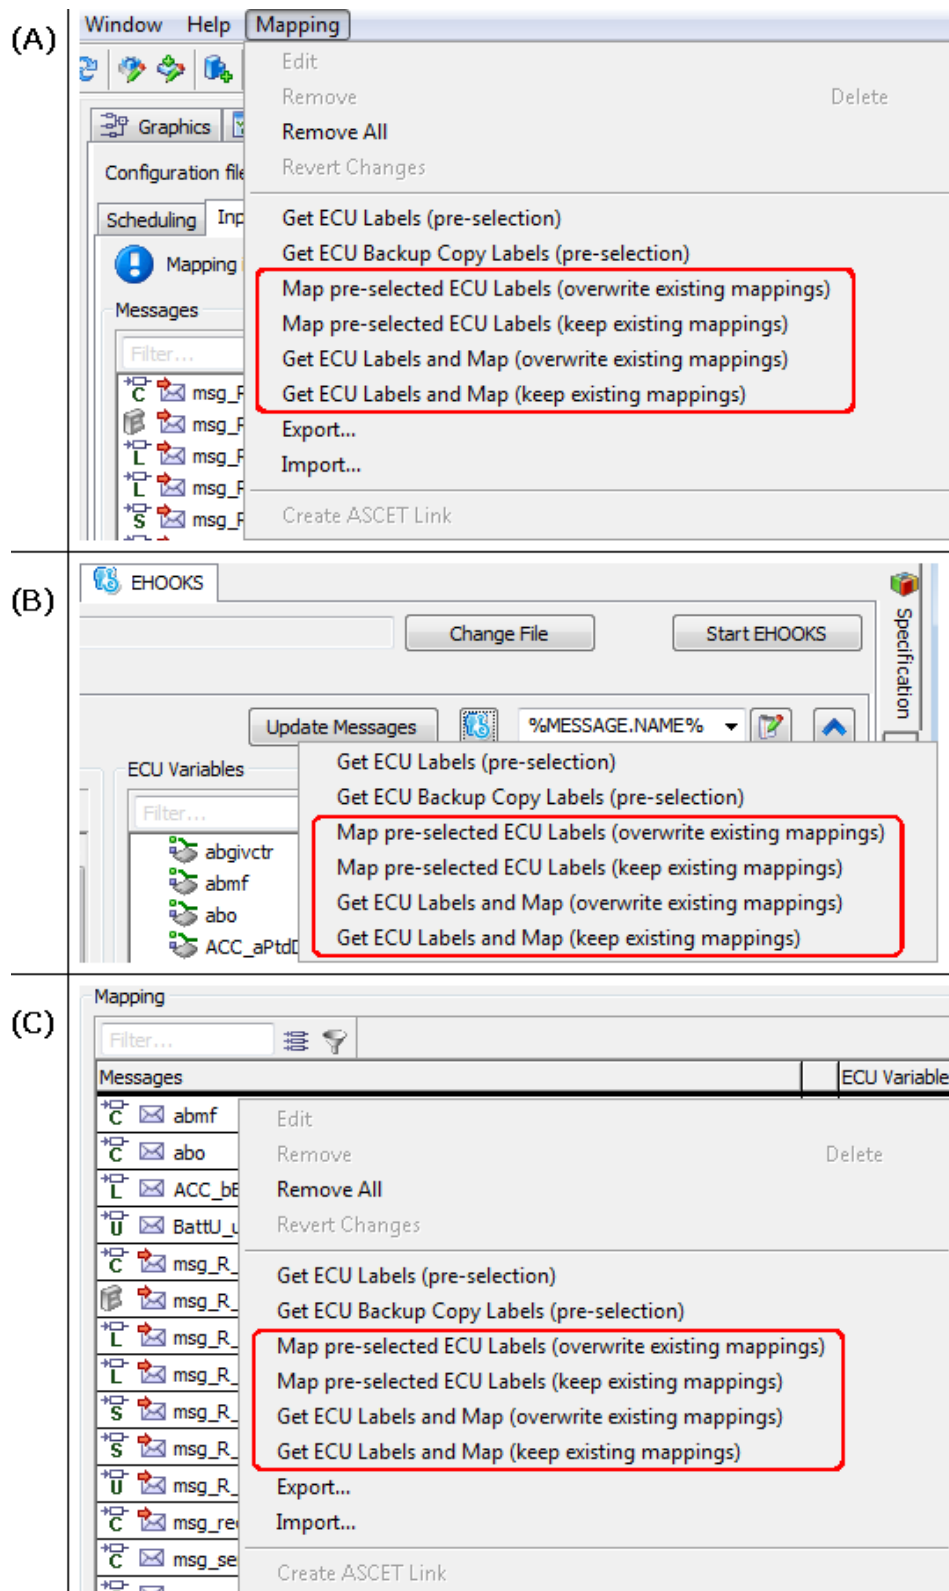

Figure 3.23: Accessing auto-mapping
This procedure works for all auto-mapping commands (see Figure 3.23 on page 57).
Auto-mapping is accessed via the **Mapping** menu, the **Open EHOOKS functions** button or the context menu in the "Input" and "Input" tabs ((A) – (C) in Figure 3.23 on the next page).